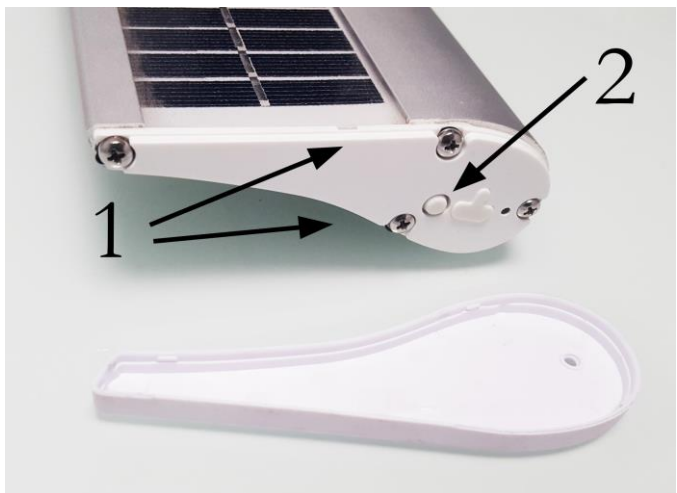

Figure 14
1. Remove the cover from the right end of the solar panel by pulling it from the base (#1 in figure 14)